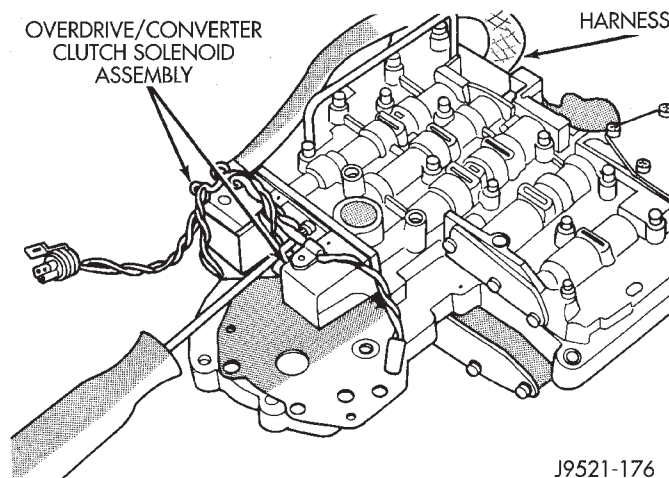

Fig. 40 Solenoid Assembly Screws
(10) Turn valve body over and remove screws that attach overdrive/converter solenoid assembly to valve body (Fig. 40).